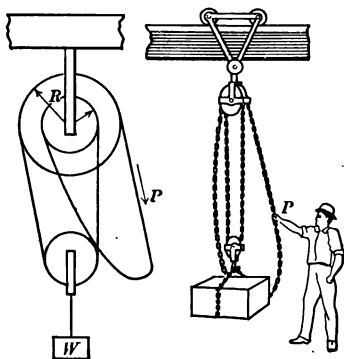

FIG. 30. — Differential pulley.
**33. The differential pulley.** In shops where heavy machinery is to be lifted, constant use is made of the **differential pulley**, shown in figure 30. This consists of two sheaves of different diameters in the upper block rigidly fastened together, and one sheave in the lower block. An endless chain runs over these blocks. The rims of the sheaves have projections which fit between the links and so keep the chain from slipping. Such a differential pulley has a *very large mechanical advantage*.